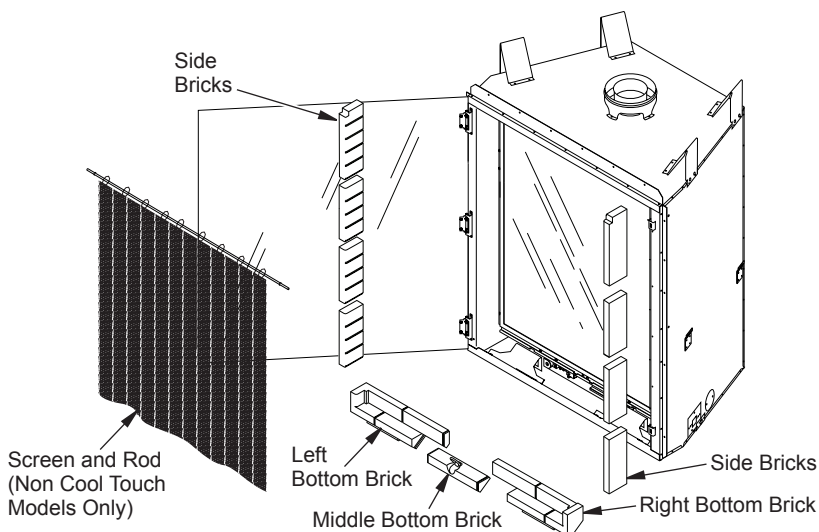

Figure 27 - Removing/Installing Brick, Side Trim and Screen
1. Remove screen and rod (see Figure 27, page 20).
2. Remove side bricks from top to bottom (see Figure 27, page 20).
3. Remove bottom bricks, starting with middle section (see Figure 27, page 20).